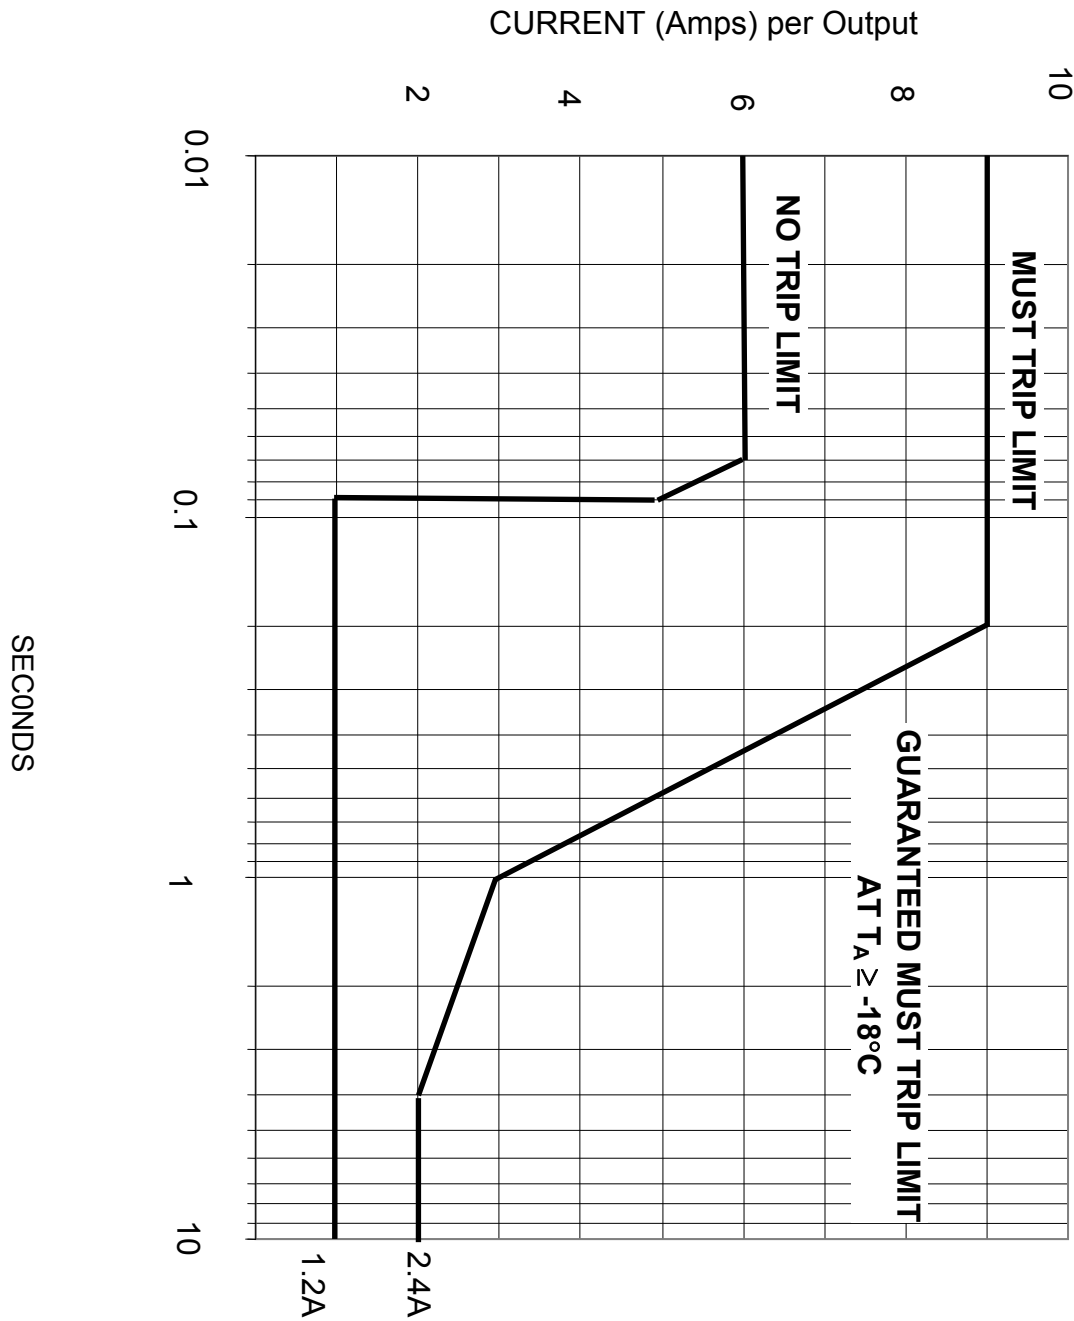

Figure 7
2. The Bus connected MOSFET output switch is isolated from all other circuit elements (Logic connected components, Bias inputs and Case). This allows operation as floating switch which may be connected as a High side or Low side switch. Pins 6 and 8 have a dedicated sense resistor for each output and when either is connected to Pin 7 (Sense) a feedback voltage is made available to the Bus connected control functions to allow a 1A output. Pins 6 or 8 tied to pin 7 allows an output of 1A and connecting Pins 6, 7 and 8 allows an output of 2A per the  $I^2t$  curve of Figure 7.